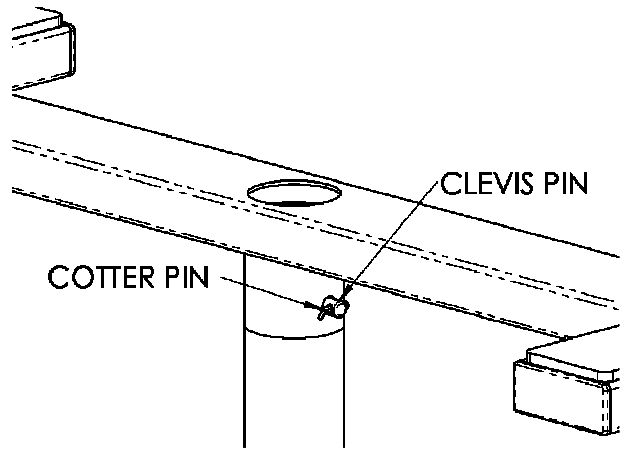

FIGURE 2
3. If you have a 9 foot ceiling, align the holes in ITEM-1 and ITEM-2 and insert the Clevis Pin (ITEM-6) through the holes as shown in Figure 2.
4. If you have an 8 foot ceiling, align the holes in ITEM-1 and ITEM-3 and insert the Clevis Pin (ITEM-6) through the holes as shown in Figure 2.
5. After inserting the Clevis Pin (ITEM-6) through the holes, insert the Cotter Pin (ITEM 7) through the Clevis Pin hole and bend one end of the Cotter Pin to secure the Clevis Pin (as shown in Figure 2).